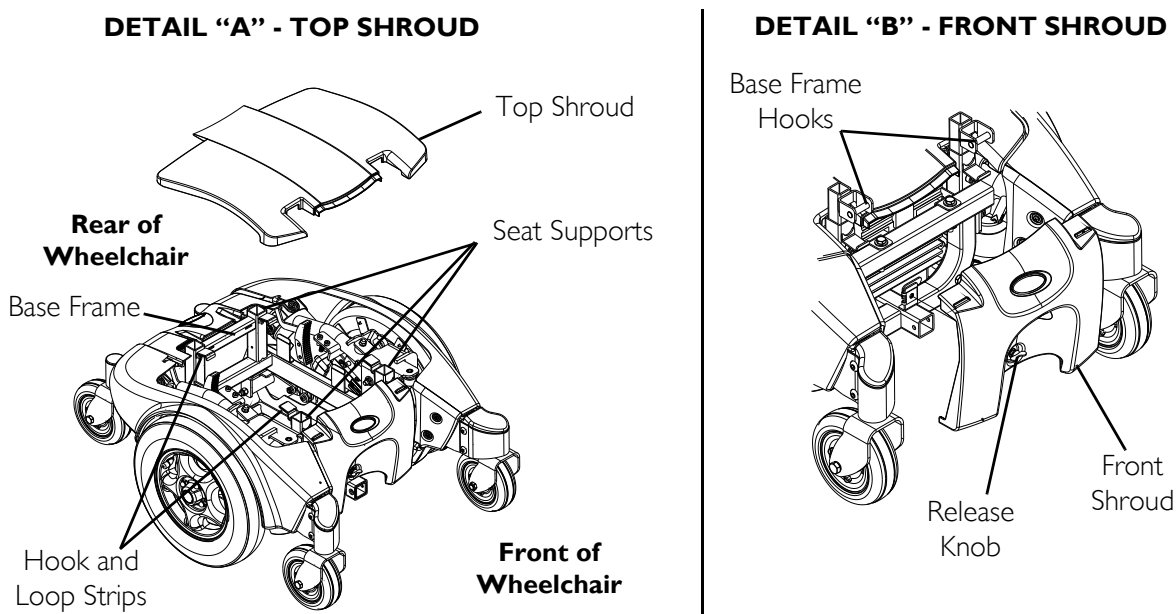

FIGURE 10.1 Removing/Installing the Shrouds
NOTE: For this procedure, refer to FIGURE 10.1 on page 66.
- Top Shroud - Lift up on rear edge of top shroud to release the four hook and loop strips that secure the top shroud to the base frame as shown in Detail "A" of FIGURE 10.1.
- Front Shroud - Turn release knob ¼-turn to the unlocked position and lift up to remove front shroud from base frame hooks as shown in Detail "B" in FIGURE 10.1.
- Top Shroud - Position top shroud on to the base frame and gently press down on top shroud to secure the four hook and loop strips that secure the top shroud to the base frame as shown in Detail "A" of FIGURE 10.1.
- Front Shroud - Position front shroud onto the two base frame hooks. Turn release knob ¼-turn to the locked position as shown in Detail "B" of FIGURE 10.1.